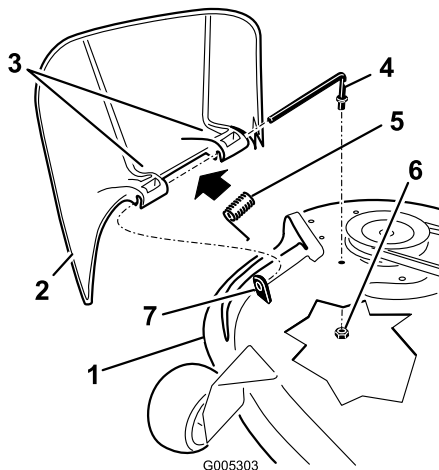

Figure 48
1. Locate items shown in Figure 48.
2. Remove the nut (3/8 inch) from the rod under the mower (Figure 48).
3. Slide the rod out of the short stand-off, spring, and grass deflector (Figure 48). Remove the damaged or worn grass deflector.
4. Replace the grass deflector (Figure 48).
6. Place the spring on the rod, with end wires down, and between the grass deflector brackets. Slide rod through second grass deflector bracket (Figure 48).
7. Insert rod at front of grass deflector into short stand-off on deck. Secure rear end of rod into the mower with a nut (3/8 inch) (Figure 48).